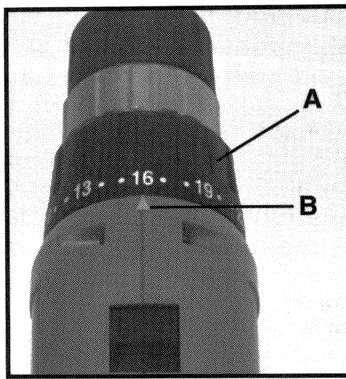

Fig. 3
The clutch unit provides twenty clutch settings plus a "Drill" (solid-lockup) setting. Lowest torque is available at setting #1, with maximum torque available at the "Drill" setting. The amount of output torque may be adjusted by rotating the front collar (A) Fig. 3, so that the desired torque setting is aligned with the index mark (B) Fig. 3. In general, lower torque settings are used for driving small screws and other delicate work, while higher torque settings are used for driving larger screws. The "Drill" position is used for drilling and for driving very large screws.